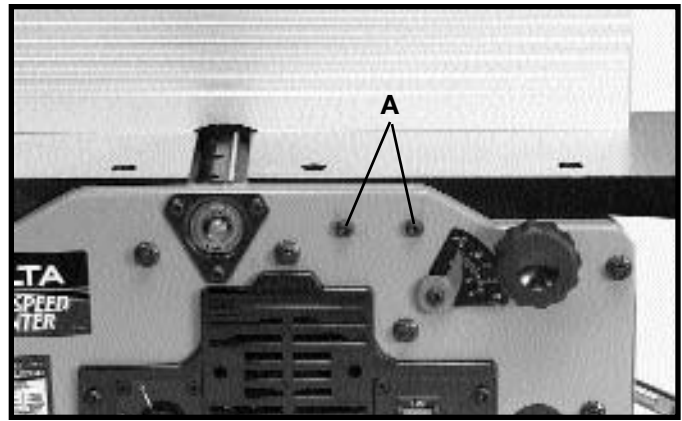

Fig. 13
1. Thread the two 7/16" long socket button head screws (A) Fig. 13, into the two threaded holes in front side of jointer base. **DO NOT COMPLETELY TIGHTEN SCREWS (A) AT THIS TIME.**